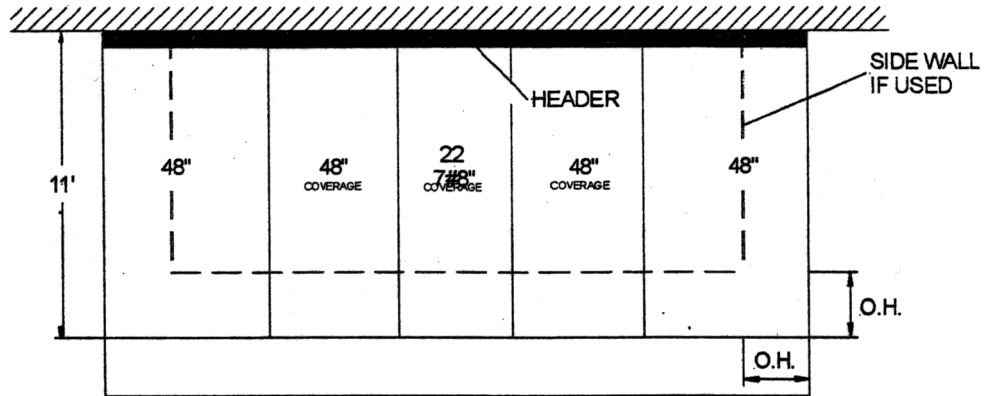

FIGURE 8 Plan VIEW FOR PANEL COVERAGE
- D. Keep in mind that a sealant tape may be used for all these connections (see figure 8)